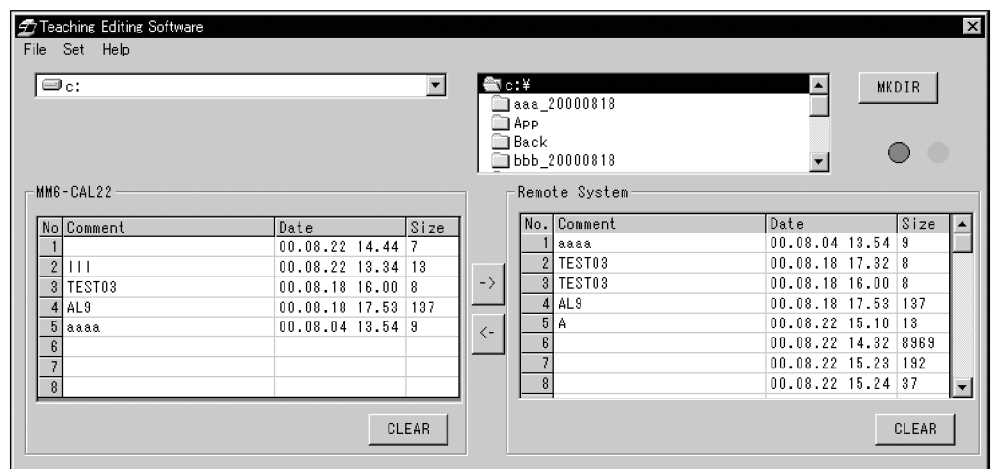
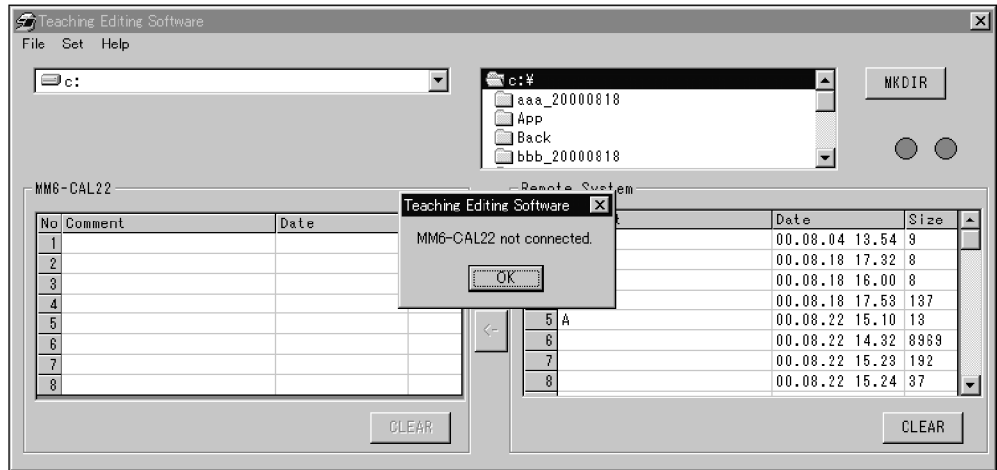

Fig. 1-3
Fig. 1-4
3. The [Main] Window appears when the Teaching Editing software starts. In Online mode (connected with MM6-CAL22), the [Main] Window appears (Fig.1-3). In Offline mode (disconnected with MM6-CAL22), the confirming message (Fig. 1-4) appears in addition to the [Main] Window. Click the <OK> button to close the message box.